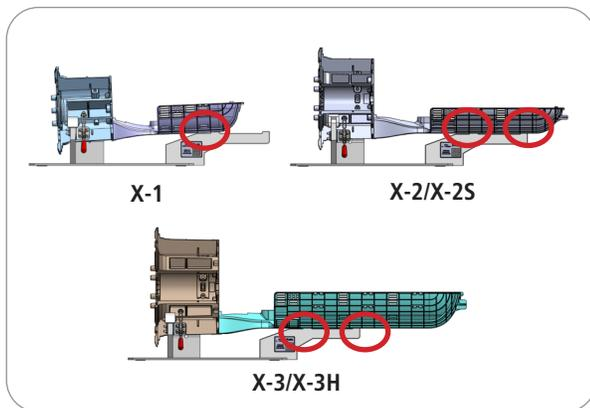

Figure 6 – Basket Support Arm
- When mounting the Apex Closure on the Installation Stand, the Basket Support Arm has two locating tabs with grooves to keep the basket in place while working on it. The tabs will keep the basket from sliding from side-to-side, and works with all all five Apex models (X-1, X-2, X-2S, X-3 and X-3H). The tabs are circled in red to show engagement points (**Figure 6**).